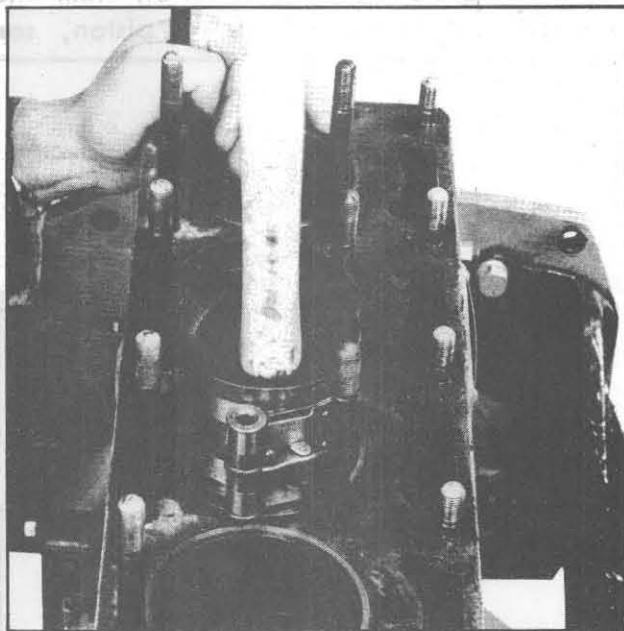

Fig. 87
To install the piston and rod assemblies in the cylinders, start with the number one assembly (indicated by a number (1) stamped on the top of the piston). Lubricate the piston rings with clean engine oil and compress them with a ring compressor. Be sure the inside of the cylinder is wiped clean and is lubricated with oil. Slip the skirt of the piston into the cylinder and turn it so that the arrow stamped on the top of the piston points toward the front of the engine. Revolve the crankshaft till the number one journal is at the bottom of its stroke. With the handle of a hammer, tap the piston into the cylinder until the end of the connecting rod is within an inch or so of the crankshaft journal, see Fig. 87. Be sure the connecting rod and the cap is clean and dry before putting the bearing inserts in place. Lubricate the bearing inserts and tap the piston until the rod is seated on its journal. Guide the rod so that the edges do not scratch the crankshaft journal. Install the connecting rod cap, matching up the number